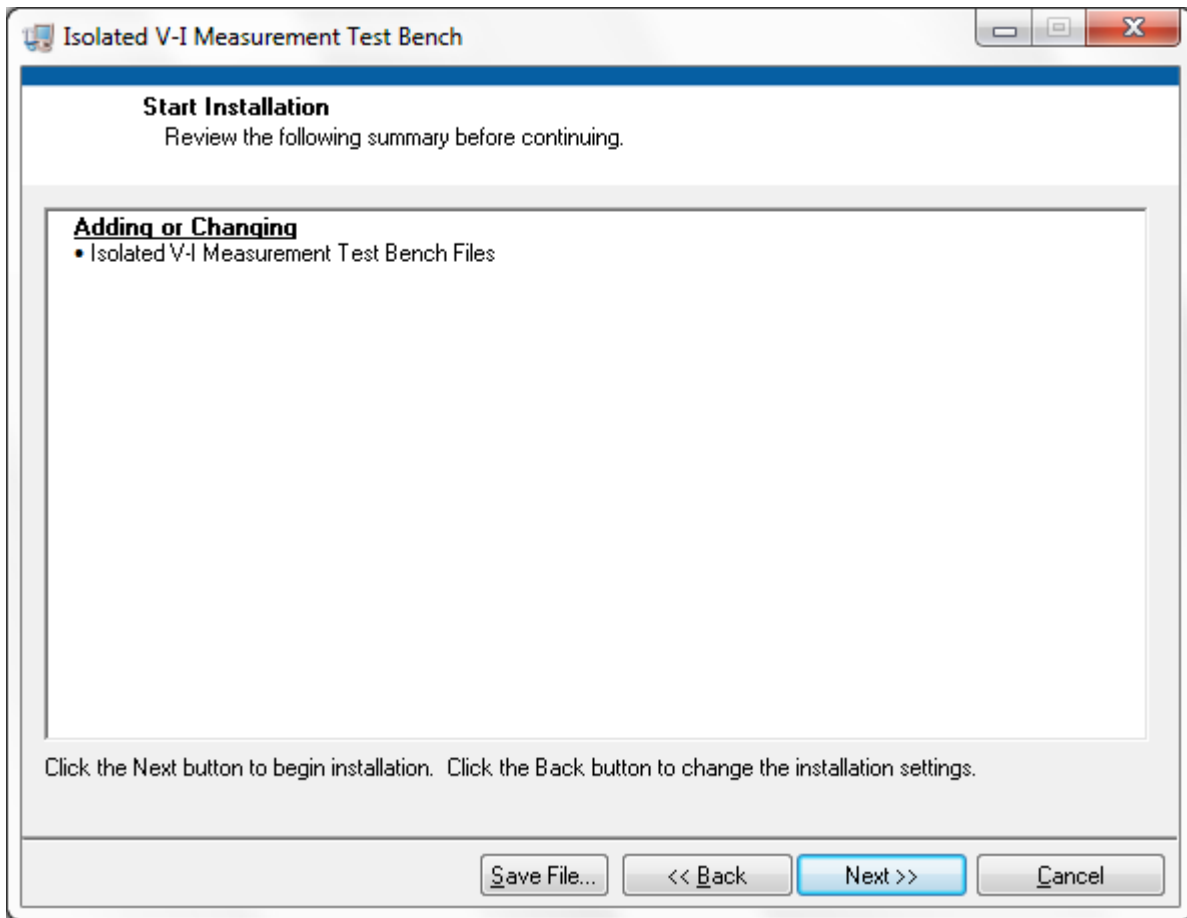

图 27. List of Files Added or Modified With Installation
2. 图 27 shows the list of files that will be added or modified with this installation. Click the *Next* button.